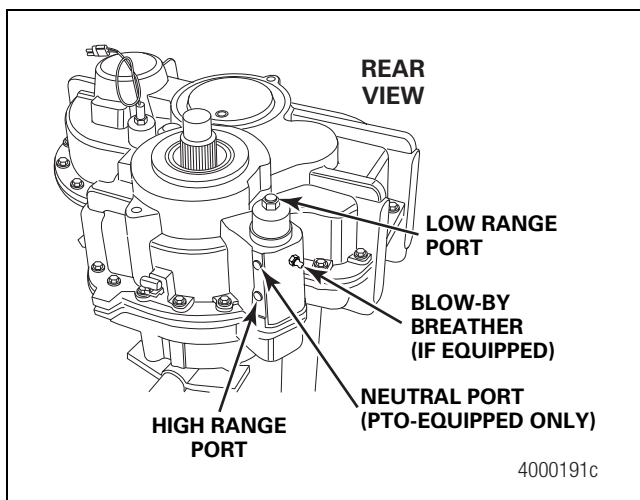

Figure 4.11
- Shift the transfer case into high range using compressed air at the high-range port of the shift cylinder. Figure 4.11 and Figure 2.4.